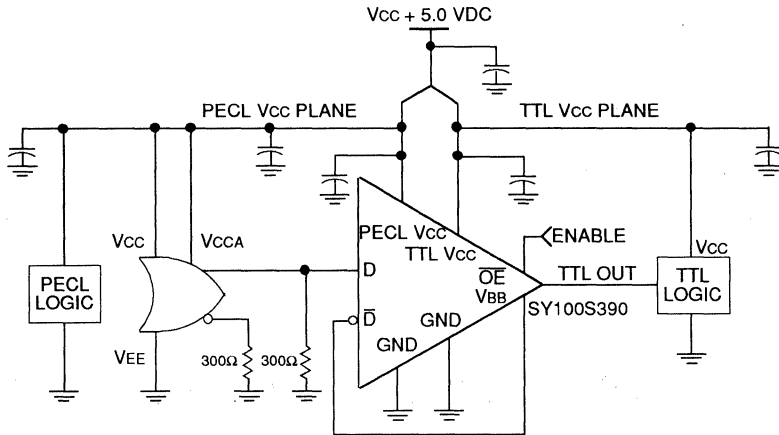

Figure 4.
7. Figure 4 illustrates typical single-ended input operation.